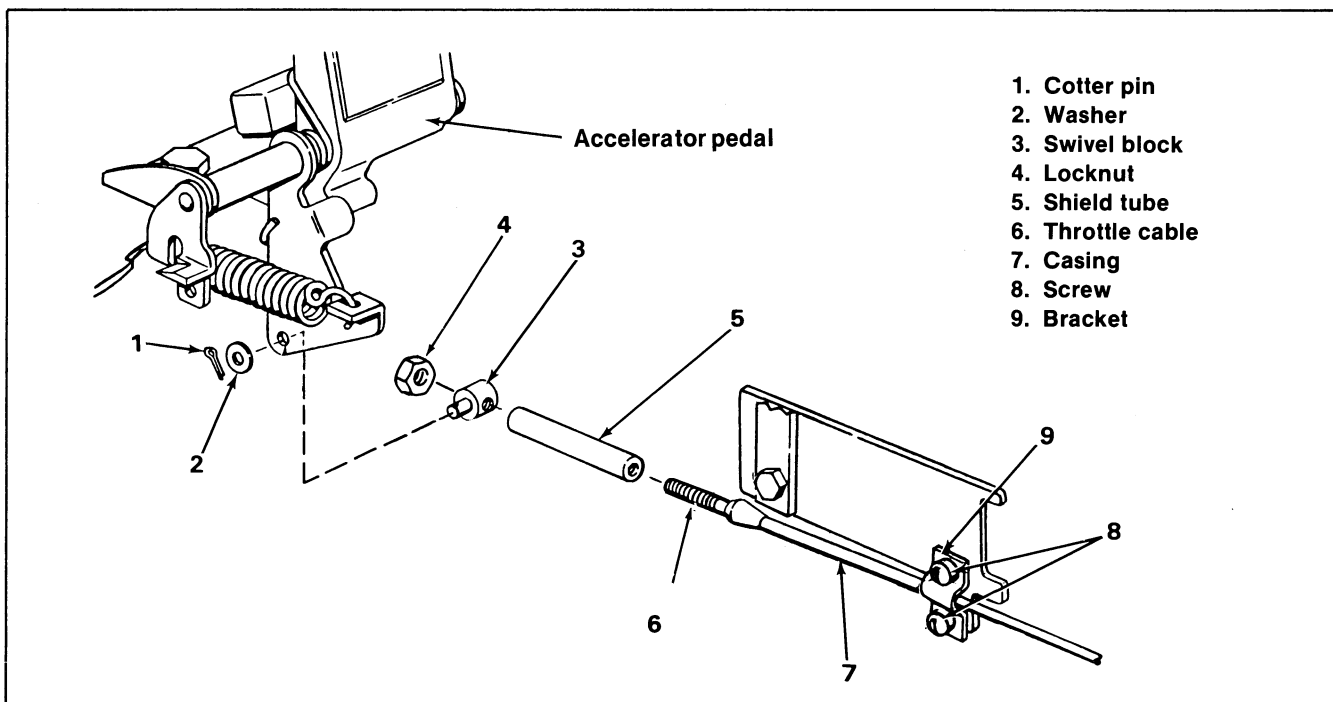

Figure 6-3. Throttle Control Adjustment
Throttle Control Adjustment (Figure 6-3).
- See Figure 6-3. Loosen the screws (8) and move the casing (7) in the bracket (9) to achieve the adequate clearance. When adequate clearance is obtained, remove the swivel block from the accelerator pedal bracket.
- Thread the shield tube (5) all the way onto the cable. Install the swivel block (3) on the cable so it rests against the shield tube, then install the locknut (4) on the cable and tighten it against the swivel block.
- Connect the swivel block to the accelerator pedal bracket and secure it with washer (2) and cotter pin (1).
2. See Figure 6-3. Remove the cotter pin (1) and washer (2). Remove the swivel block from the accelerator pedal bracket.
3. See Figure 6-3. Remove the lock nut (4), swivel block (3) and shield tube (5) from the cable (6). Remove the two screws (8) and bracket (9).